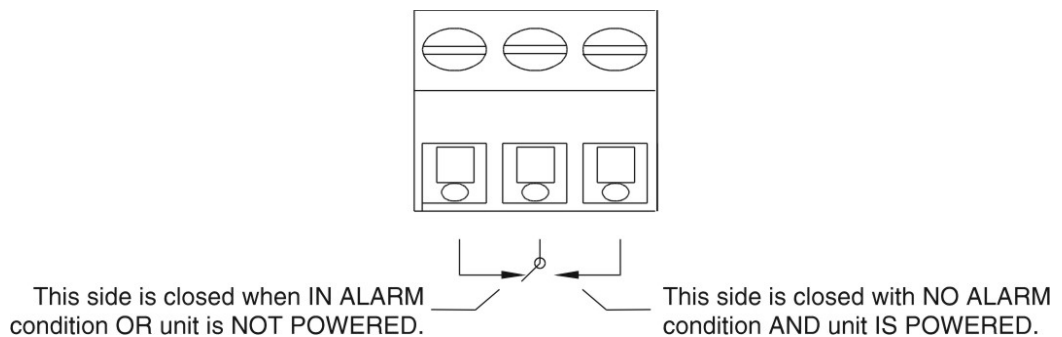

Figure 3-3: Contact ID for FAILSAFE Relay Operation
Analog Outputs: There are three DC output signal connectors with screw terminals on the panel. There are two wires per output with the polarity noted. See Figure 3-3. The outputs are:
The contact connections are indicated diagrammatically on the rear panel as normally closed (NC), common (C), and normally open (NO). Figure 3-3 explains how these act in failsafe operation.